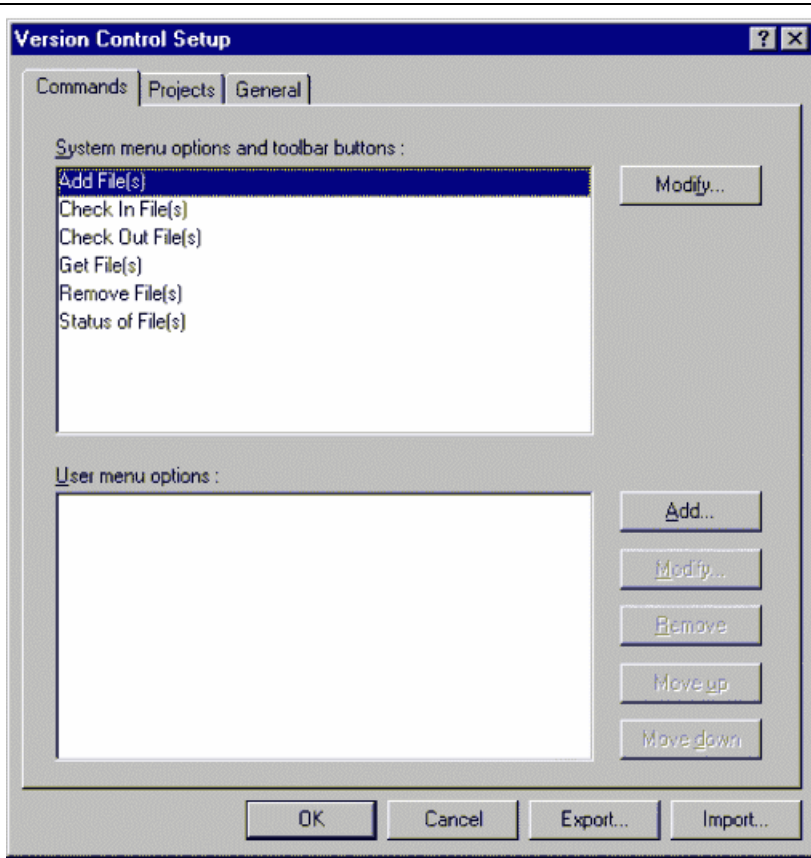
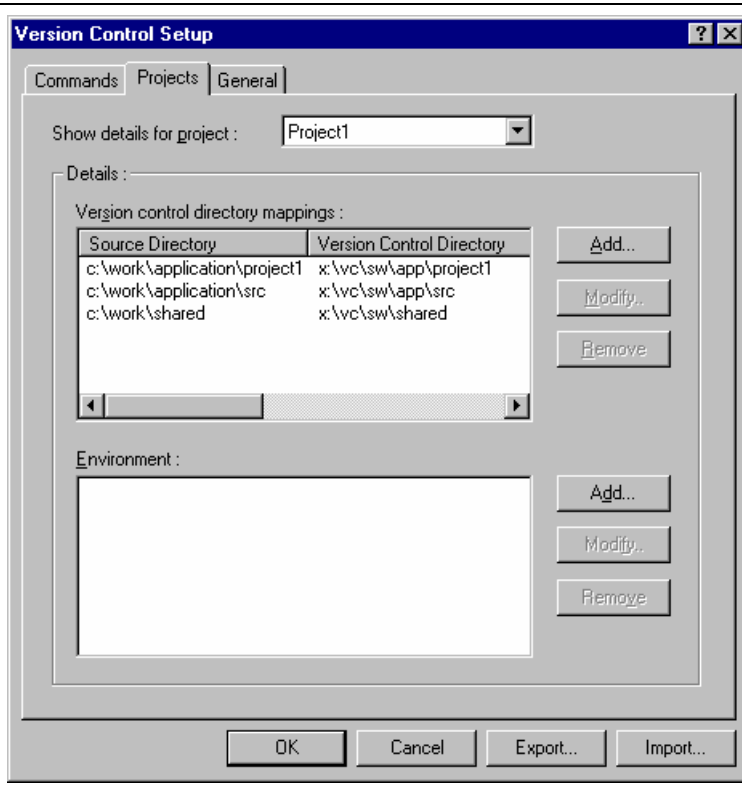

Figure 8.1: Version Control Setup Dialog Commands Tab
Figure 8.7: Version Control Setup Dialog Projects Tab
The custom version control support allows you the most flexibility in specifying how a version control system is to be used. To configure it, select [**Version Control->Configure...**]. The “Version Control Setup” dialog will be displayed (figure 8.1).
1. Select [Version Control->Configure...]. The dialog shown in figure 8.1 will be displayed.
1. Select [**V**ersion **C**ontrol->**C**onfigure...]. The dialog shown in figure 8.1 will be displayed.
1. Select [**Version Control->Configure...**]. The dialog shown in figure 8.1 will be displayed.
However, when executed, this command can only ever get the file MAIN.C. To resolve this problem, HEW uses a system of placeholders and directory mappings. The latter tell the HEW which “working” directories (i.e. where source files are being worked on) map to which “controlled” directories (i.e. where the source files are stored in the version control system). Mappings between these two directory systems can be specified via the “Projects” tab of the “Version Control Setup” dialog (figure 8.7).
1. Select [**Version Control->Configure...**]. The dialog shown in figure 8.1 will be displayed. Select the “Projects” tab, and the dialog shown in figure 8.7 will be displayed.
1. Select [**Version Control->Configure...**]. The dialog shown in figure 8.1 will be displayed. Select the “Projects” tab, the dialog shown in figure 8.7 will be displayed.
Select the “Projects” tab of the “Version Control Setup” dialog to view the current settings (figure 8.7).